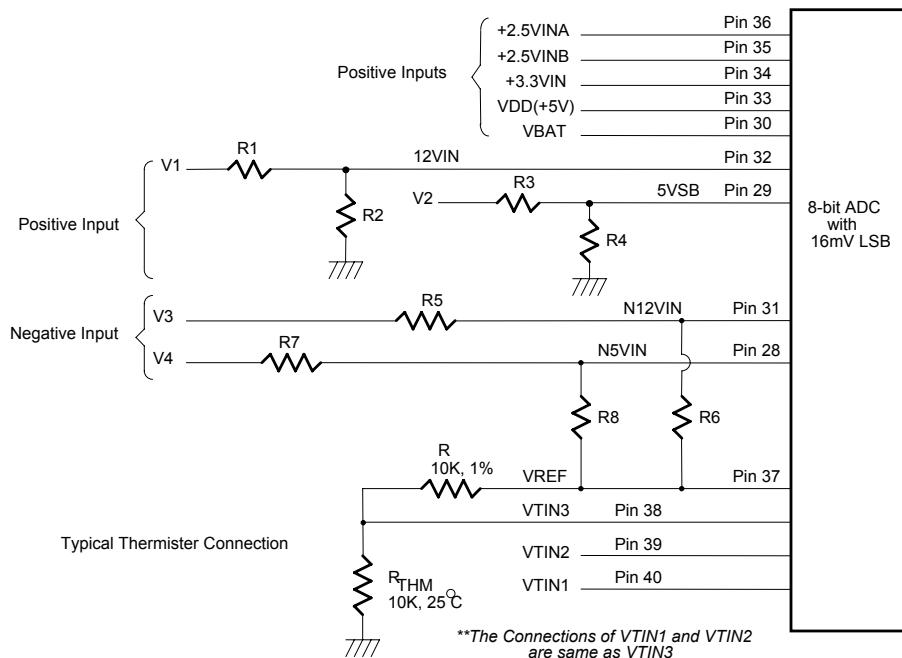

Figure 11.
The maximum input voltage of the analog pin is 4.096V because the 8-bit ADC has a 16mV LSB. Really, the application of the PC monitoring would most often be connected to power suppliers. The CPU V-core voltage, +3.3V and battery voltage can directly connect to these analog inputs. The 5VSB and +12V inputs should be reduced a factor with external resistors so as to obtain the input range. As Figure 11 shows.
The negative voltage should be connected two series resistors and a positive voltage VREF (is equal to 3.6V). In the Figure 11, the voltage V3 and V4 are two negative voltages which are -12V and -5V, respectively. The voltage V3 is connected to two serial resistors then is connected to another terminal VREF which is positive voltage. So as that the voltage node N12VIN can be obtain a posedge voltage if the scales of the two serial resistors are carefully selected. It is recommended from Winbond that the scale of two serial resistors are R5=232K ohms and R6=56K ohm. The input voltage of node -12VIN can be calculated by following equation.
The W83782D/G can connect three thermistors to measure three different environment temperatures. The specification of thermistor should be considered to (1) β value is 3435K, (2) resistor value is 10K ohms at 25°C. In the Figure 11, the thermistor is connected by a serial resistor with 10K Ohms, then connect to VREF (Pin 37).